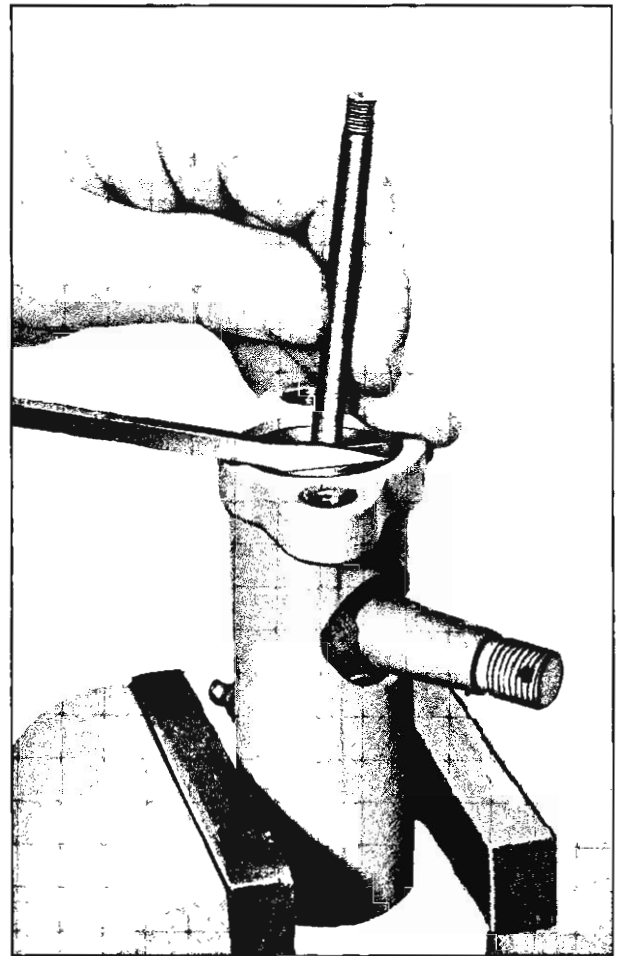

Fig. 83—Turning Adjuster Plug out of Sleeve
7. Carefully, so as not to nick the top surface, turn adjuster plug out of sleeve (fig. 83).